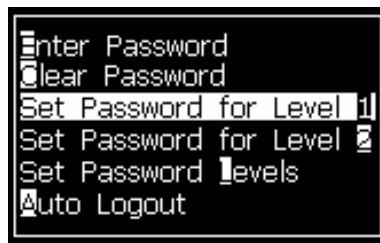
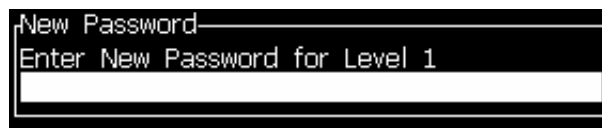

Figure 4-4: Set Password Level
Figure 4-5: New Password
- 1 Press *Alt + w* and select *Set Password for level 1* or *Set Password for level 2* from the *Password* menu (see Figure 4-4 on page 4-3). The *New Password* dialog box appears (see Figure 4-5 on page 4-3).